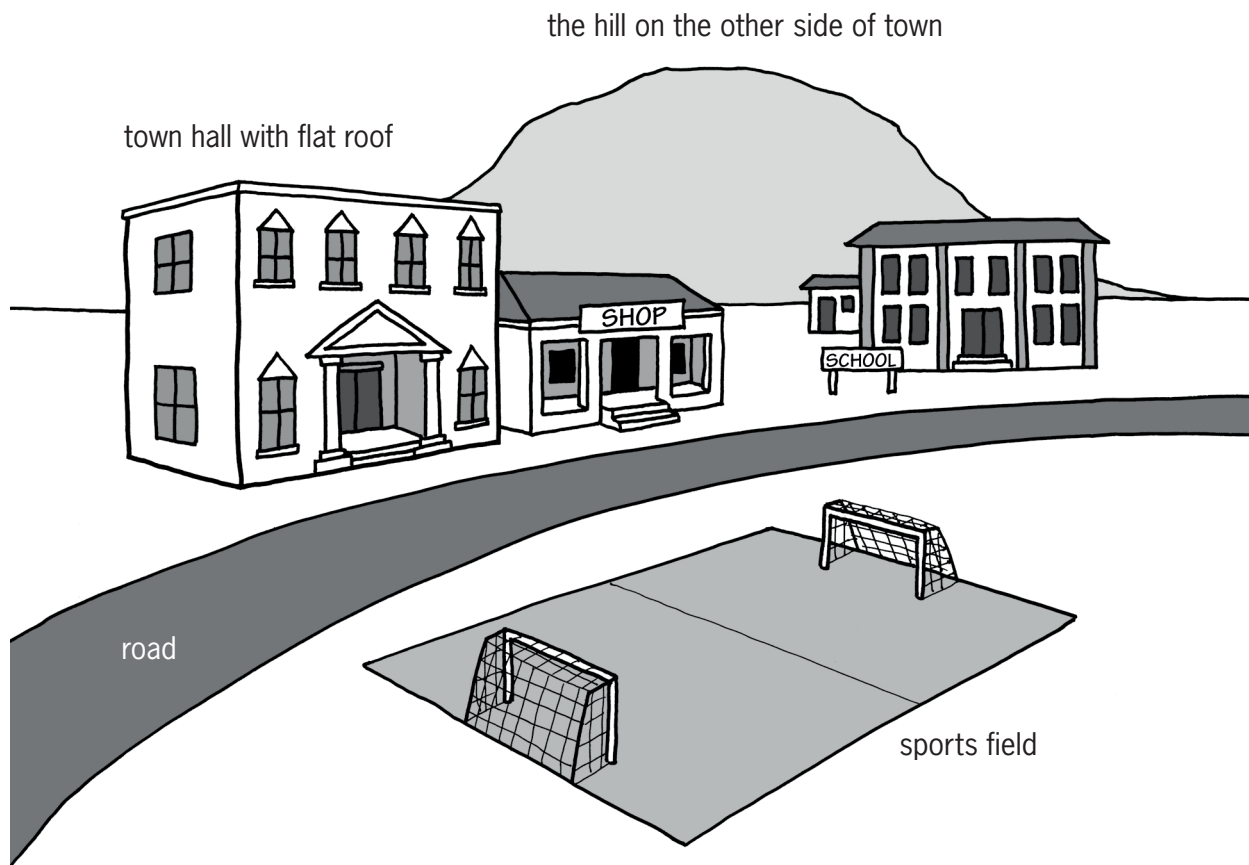

Figure 3
3. Copy the picture of the village in Figure 3. Where do you think the cell phone tower should be placed? Also decide what type of tower it should be and make a rough drawing of the tower on the right place in the picture.